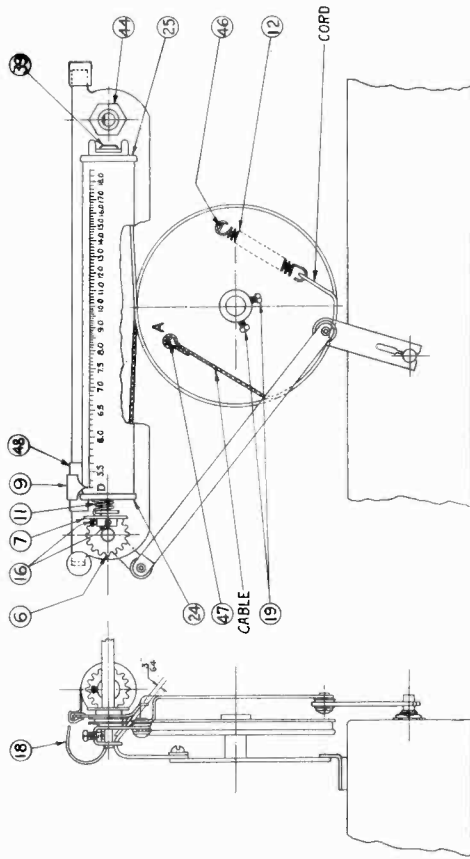

Fig. 5. Dial Mechanism
With set screws (19) loosened and tuning condenser plates fully engaged, place the drum in the position shown in Fig. 5 so that the top rim of the drum is $\frac{3}{4}$ in. away from the mounting plate. Guide (48) should stop at equal distances from each end of the mounting plate slot.
The position of the dial scale pointer, with respect to the tuning condenser drum is fixed by means of a special metal braided cable connecting the drum with the guide (48). Tension is maintained on the cable through the drum spring (12) and drive cord. To replace either the drive cable or the drive cord, remove the dial scale for convenient access to guide (48). Unhook spring (12) from tab (46) to release tension. Unhook the cable or cord from guide (48) and unwind from the pulleys and drum. To replace the cable, rethread to agree with Fig. 5, and rehook drum spring (12) as shown.